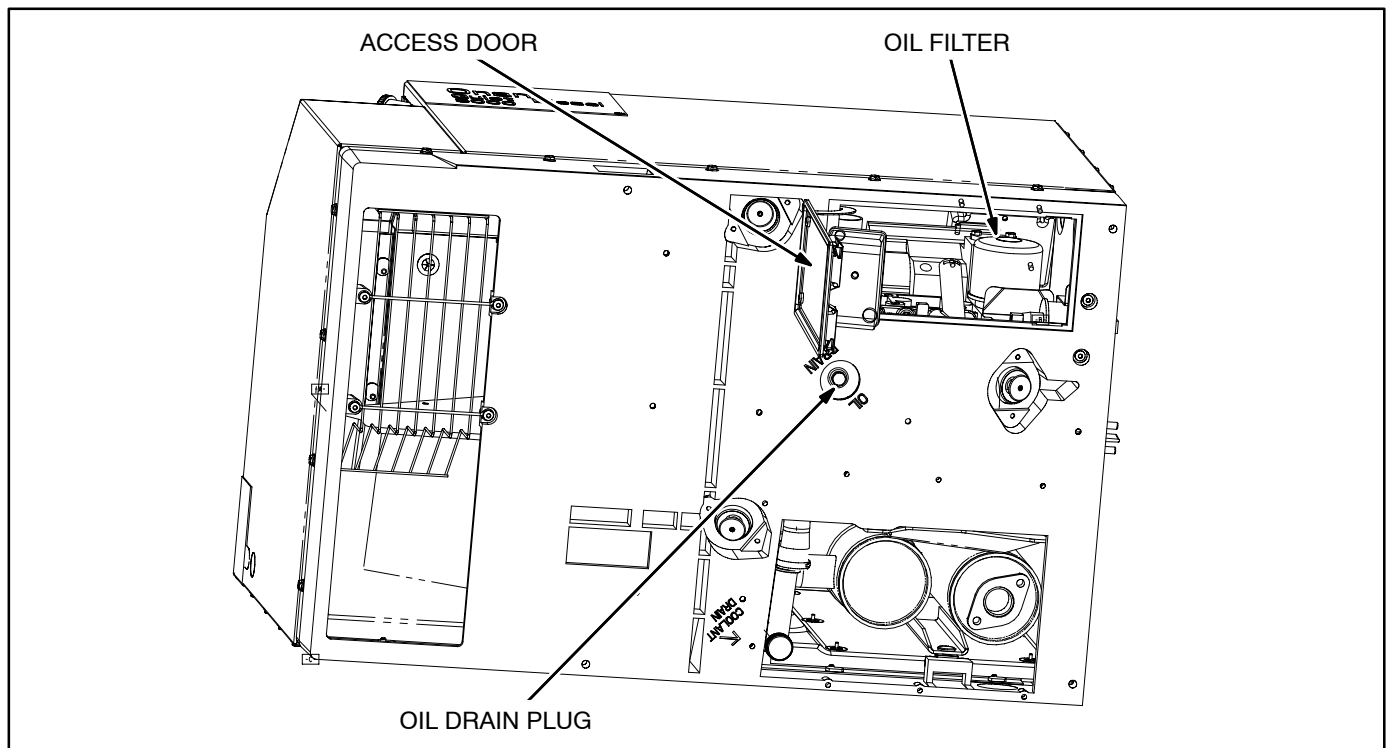

FIGURE 6. OIL DRAIN PLUG AND OIL FILTER
2. Place a pan underneath the genset and unscrew the oil drain plug (Figure 6). Let all oil drain from the engine.
4. Squeeze the access door latches together and let the door swing down (Figure 6).